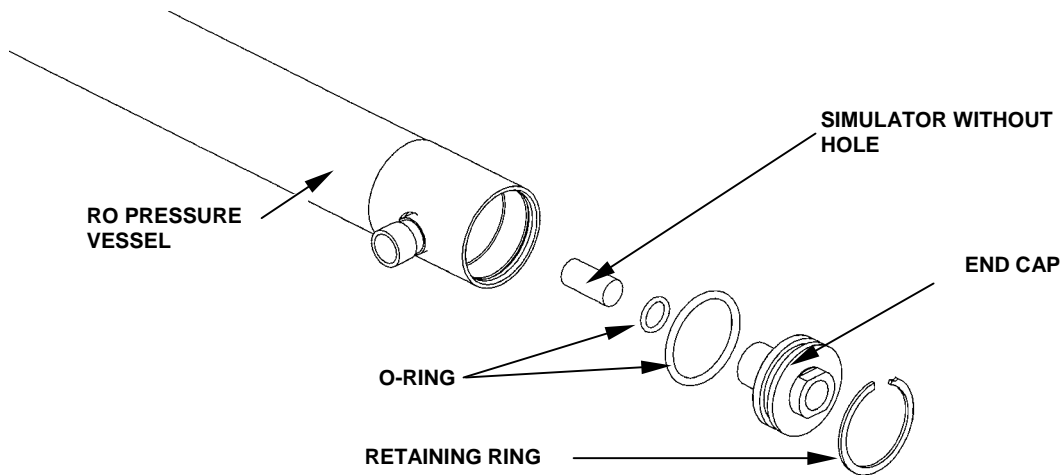

Figure 10. Pressure Vessels 1-6 With Simulator.
2. Pressure vessel 1-6 contains simulators without holes. Figure 10.